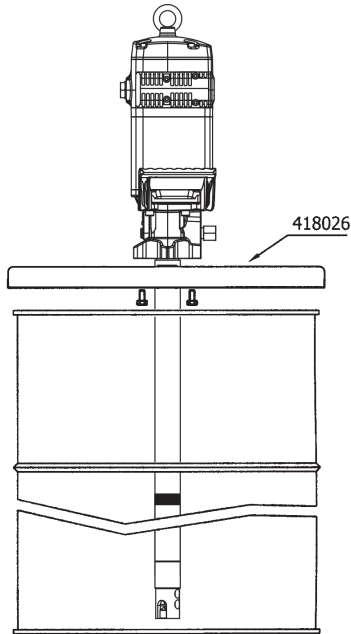

Fig. 2
- a. Mounting with reinforced cover 4420-013 for 400 lb (185 kg) drum and 4420-014 for 120 lb (50 kg) drum. Insert the pump through the cover and fasten it with the enclosed screws. Insert the pump through the bung opening and fasten the cover onto the drum firmly (see figure 2).